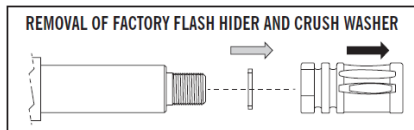

FIGURE 1
2. Referring to the host weapon user manual, remove the existing flash hider/muzzle brake, spacers, shims and/or washers from the host weapon (Figure 1). DO NOT reuse shims, spacers or washers removed from the host weapon.